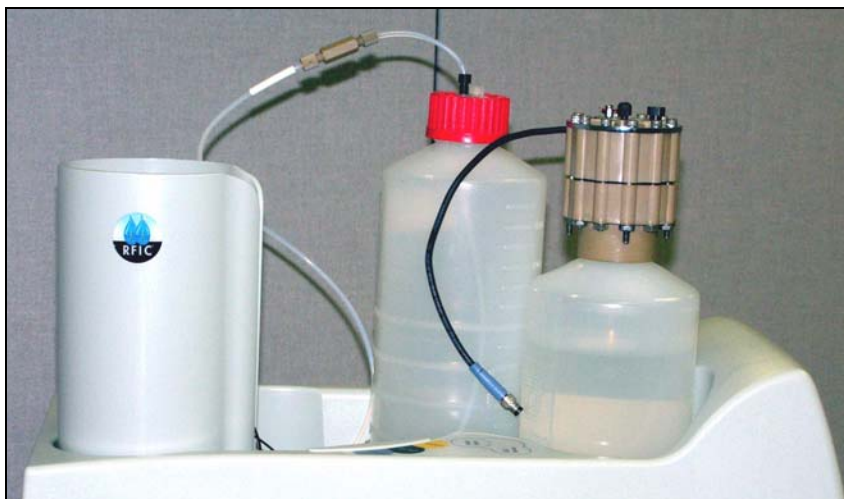

Figure B-55. EluGen Cartridge in Service Area
7. Set the EluGen cartridge in the service area on top of the ICS-2000 and orient it with the cable toward the EGC holder (see Figure B-55).